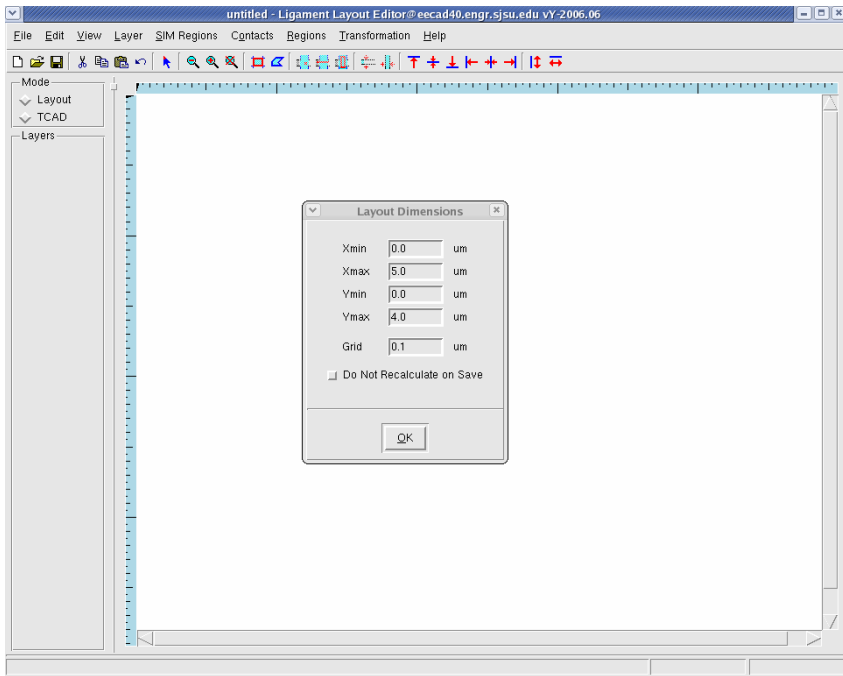

Figure 9: Starting the Layout Editor.
2. Click OK on the Layout dimensions pop-up that is in front of the Layout editor (Figure 9).